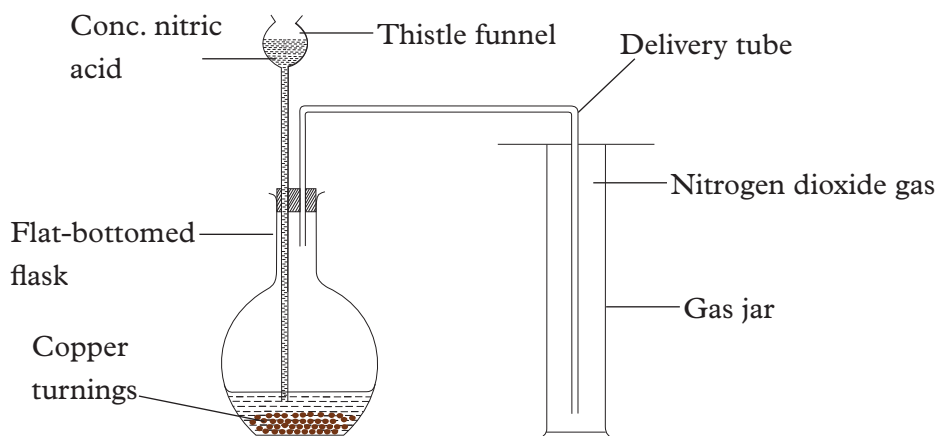

Fig 2.5: Laboratory preparation of nitrogen dioxide
2. Arrange the apparatus as shown in Fig. 2.5.